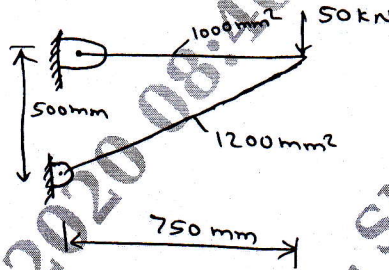

Fig.Q4
- 4 For 2 bar truss shown in Fig.Q4 determine the nodal displacements and the stress in each member. Take  $E = 200 \text{ GPa}$ .